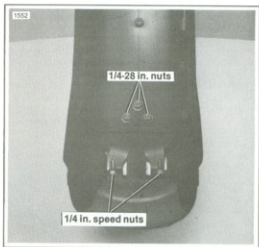

Figure 2-130. Taillight and License
6. See Figure 2-130. Remove and discard the two 1/4 in. speed nuts securing the taillight assembly, transfer the assembly to the new fender and install it using new 1/4 in. speed nuts. Route the wiring harness to the front of the fender, securing it under the wire clips.
- See Figure 2-130. Remove the three 1/4"-28 nuts securing the license plate bracket and transfer the assembly to the new fender. Tighten the screws to 6 ft-lbs torque.